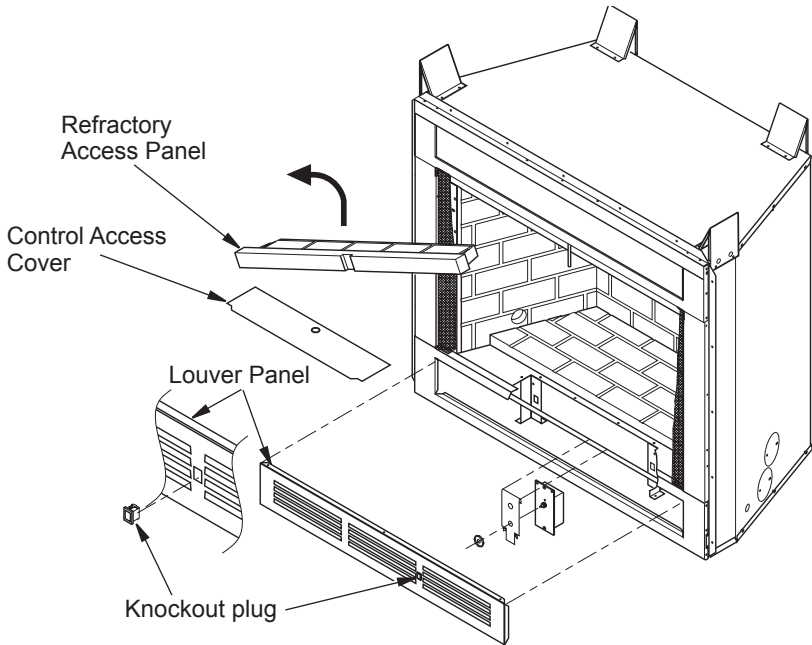

Figure 3: Accessing Blower Compartment (Controls Not Shown for Clarity) B-vent, Wood and Vent-Free Models
2. Remove front refractory access panel by lifting up and angling out through fireplace opening. See Figure 3, page 2.
5. Remove knockout plug from lower louver panel. See Figure 3, page 2.